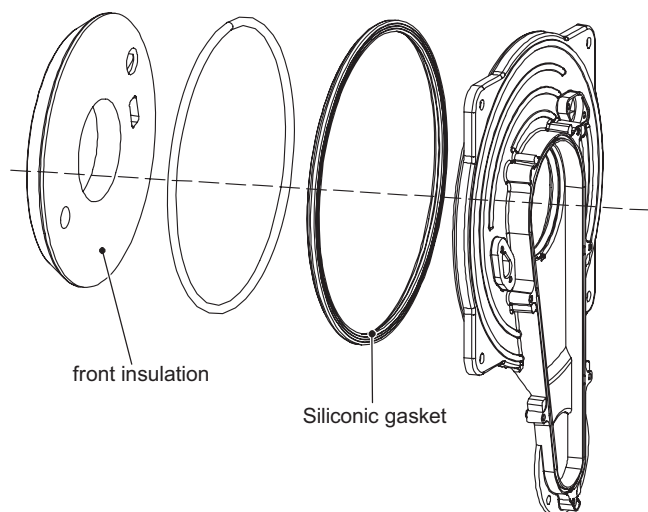

Figure 18.5
- 3 Remove the front insulation panel (Figure 18.5).
After any periodical servicing or disturbance the combustion chamber silicon seal (Figure 18.5) must be fully inspected and replaced at the discretion of the service engineer.